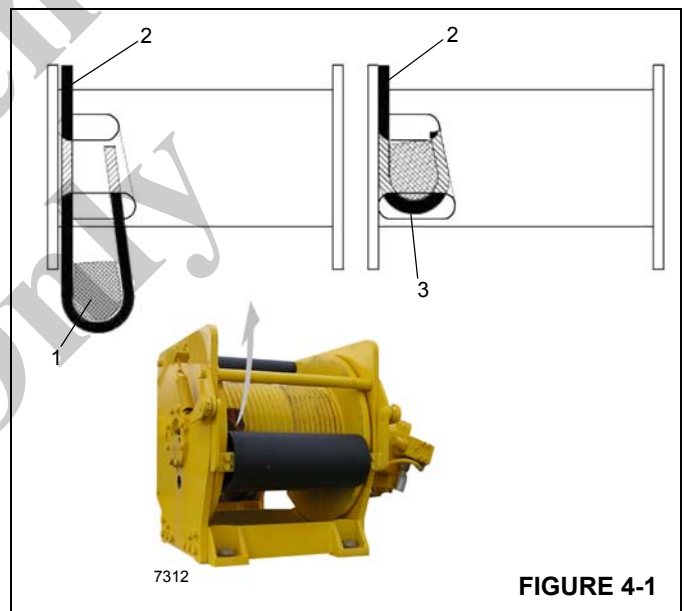

FIGURE 4-1
3. Insert the cable through the slot and position around the anchor wedge (1) (Figure 4-1).
(Figure 4-1)